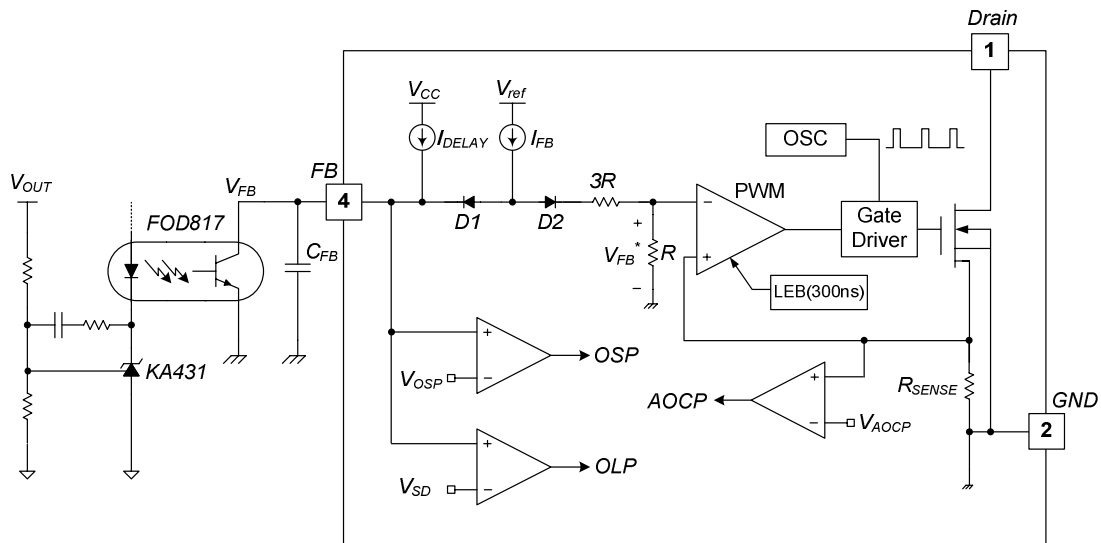

Figure 18. Pulse Width Modulation Circuit
3. Feedback Control: This device employs current-mode control, as shown in Figure 18. An opto-coupler (such as the FOD817) and shunt regulator (such as the KA431) are typically used to implement the feedback network. Comparing the feedback voltage with the voltage across the R_{SENSE} resistor makes it possible to control the switching duty cycle. When the reference pin voltage of the shunt regulator exceeds the internal reference voltage of 2.5V, the opto-coupler LED current increases, pulling down the feedback voltage and reducing the drain current. This typically occurs when the input voltage increases or the output load decreases.
3.1 Pulse-by-Pulse Current Limit: Because current-mode control is employed, the peak current through the SenseFET is limited by the inverting input of PWM comparator (V_{FB}^*), as shown in Figure 18. Assuming that the $210\mu A$ current source flows only through the internal resistor ($3R + R = 11.6k\Omega$), the cathode voltage of diode D2 is about 2.4V. Since D1 is blocked when the feedback voltage (V_{FB}) exceeds 2.4V, the maximum voltage of the cathode of D2 is clamped at this voltage. Therefore, the peak value of the current through the SenseFET is limited.